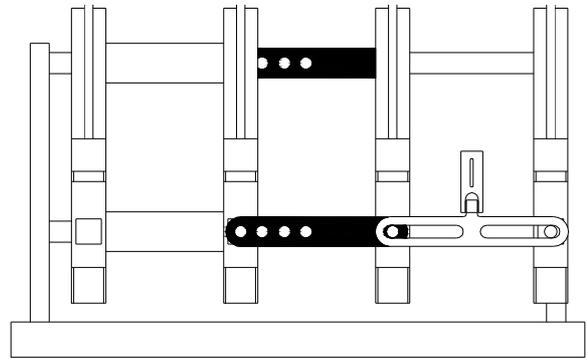

Figure 2.Configuration 3 moveable clamps + 1 fixed clamp
- One fixed clamp and three moveable clamps Fig. 2